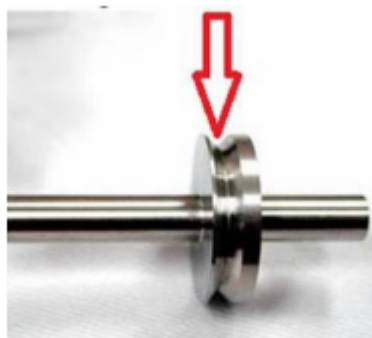

Figure 2 FID collector.
- When reassembling the FID, make sure that all mechanical assemblies are tight and that the interconnect spring does not get deformed. It should be oriented into the channel on the outer perimeter of the FID collector (Figure 2).